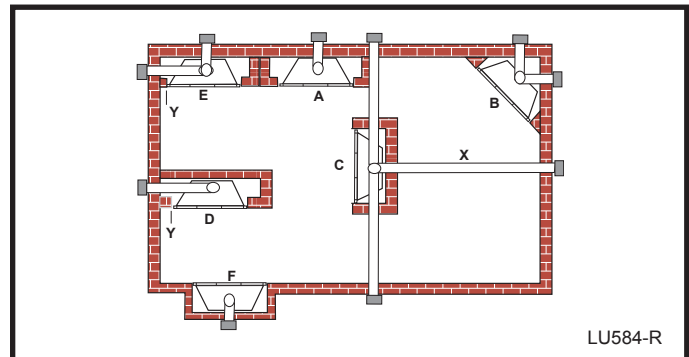

Fig. 1 Locate gas fireplace.
NOTE: (fig. 1)
** Island (C) and Room Divider (D) installation is possible as long as the horizontal portion of the vent system (X) does not exceed 20' (610 cm). See details in Venting Section.
* When you install your fireplace in (D) Room divider or (E) Flat on wall corner positions (Y), a minimum of 6" (153 mm) clearance must be maintained from the perpendicular wall and the front side edge of the fireplace.
Refer to (Y) in Figure 1.